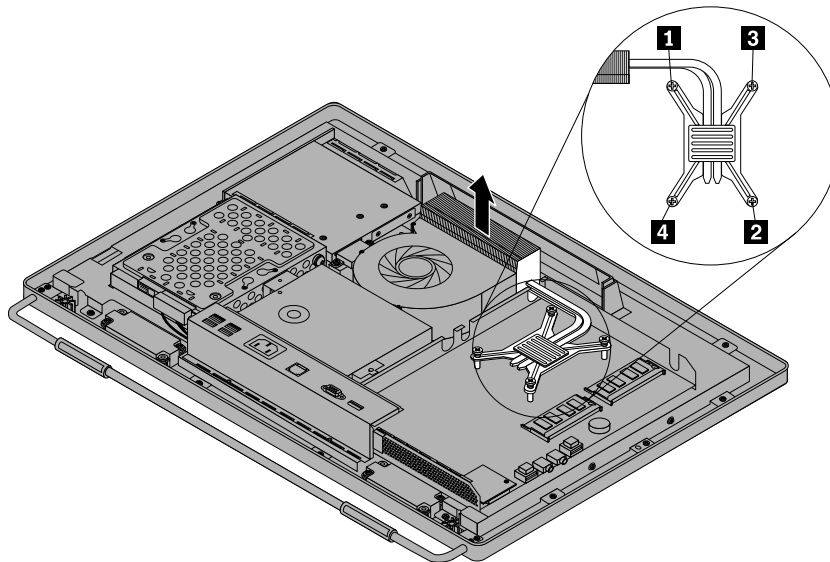

Figure 25. Loosing the four screws that secure the heat sink assembly to the system board
9. Follow the sequence **1**, **2**, **3**, **4** on the heat sink assembly to tighten the four screws to secure the heat sink assembly to the system board, as shown in Figure 25 “Loosing the four screws that secure the heat sink assembly to the system board” on page 105.